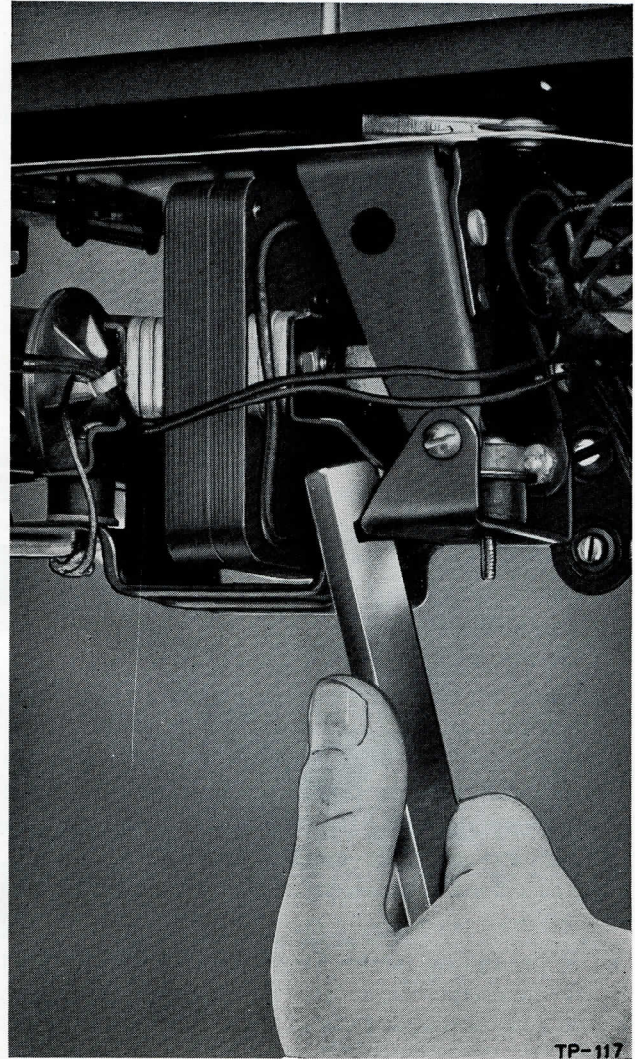

FIGURE 22. RESHAPING MOTOR-MOUNTING PLATE
37. Rock the motor slowly back and forth while listening for the "scrub" of the bell-drive tire against the motor-drive disc. Reshape the motor-mounting plate, as shown in figure 22, to hold the motor in the position that produces minimum scrub.
39. Check the clearance between the motor laminations and changer base plate while rotating the speed ADJUST knob through its entire range. If the motor laminations touch the changer base plate at any point, the motor-mounting plate must be reshaped, as shown in figure 22. If reshaping is necessary, repeat step 38.